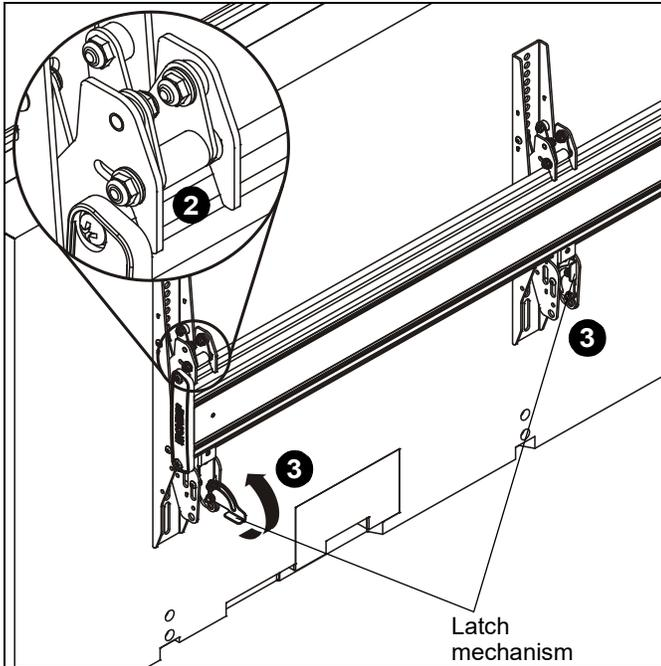

Figure 19
2. While supporting both sides of display, lower display onto center of ceiling mount, hooking top of interface brackets onto front of ceiling mount. (See Figure 19)
3. Raise the latch mechanism on both interface brackets to lock bracket in place. (See Figure 19)
6. While supporting both sides of second display, lower second display onto one end of mounting rail, hooking top of interface brackets onto front of mounting rail. (See Figure 19)
8. While supporting both sides of third display, lower third display onto opposite end of mounting rail, hooking top of interface brackets onto front of mounting rail. (See Figure 19)